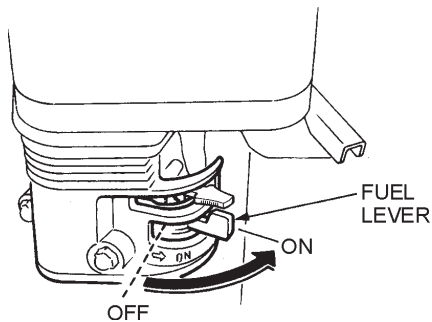

Figure 11. Fuel Valve Lever
1. Place the **fuel valve lever** (Figure 11) in the "ON" position.
3. Place the **fuel valve lever** (Figure 11) in the "**OFF**" position.